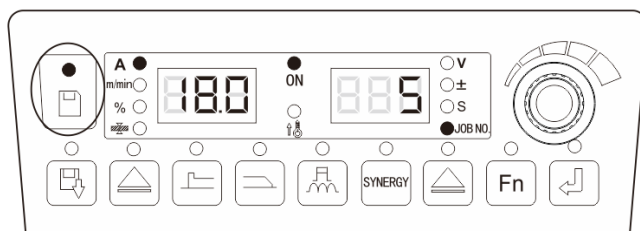

Fig.4-10 Storage Setting Interface
2. Select channel number with panel knob, press "Execution" key, as shown in fig.4-10.